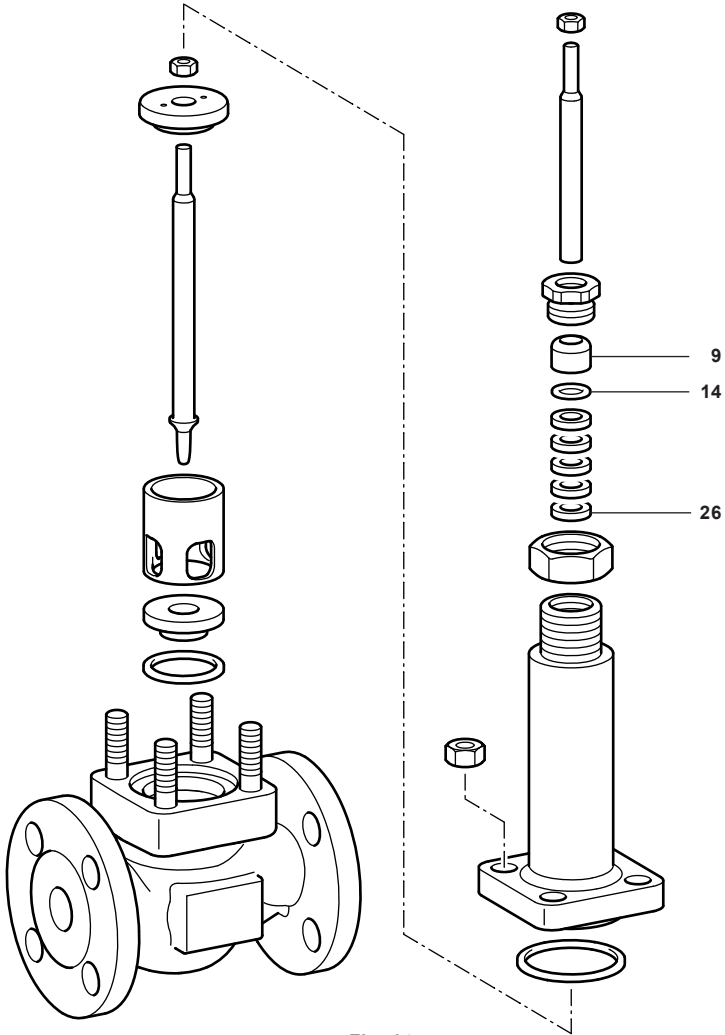

Fig. 14
- **Extended bonnet DN15-100 (Fig. 14)**